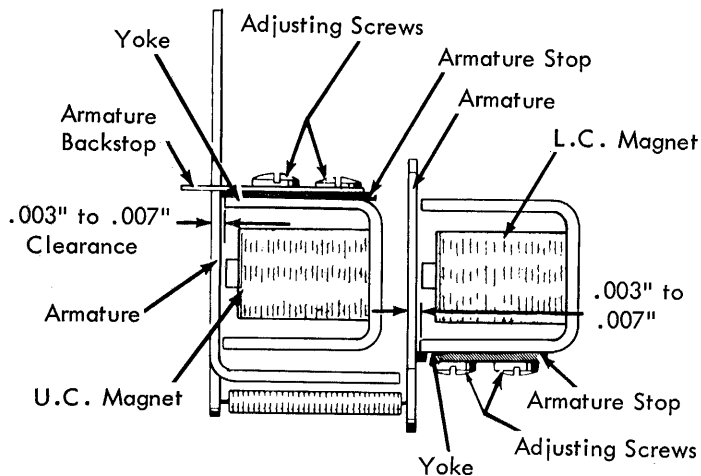

FIGURE 75. Armature Stops
2. Armature Stops (Fig. 75) - Position (magnets energized) so that the armatures clear their yokes by .003" to .007".